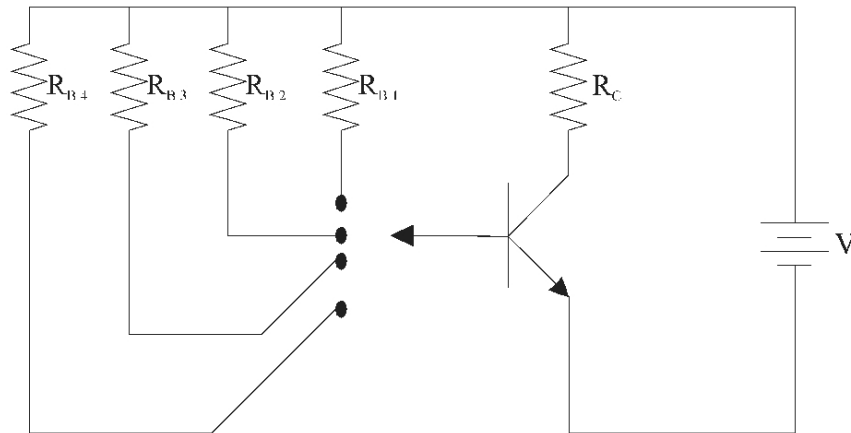

Figure 7-6-2. Circuit to verify the operation of the transistor as a switch.
3. Mount the circuit shown in figure 7.6.2.